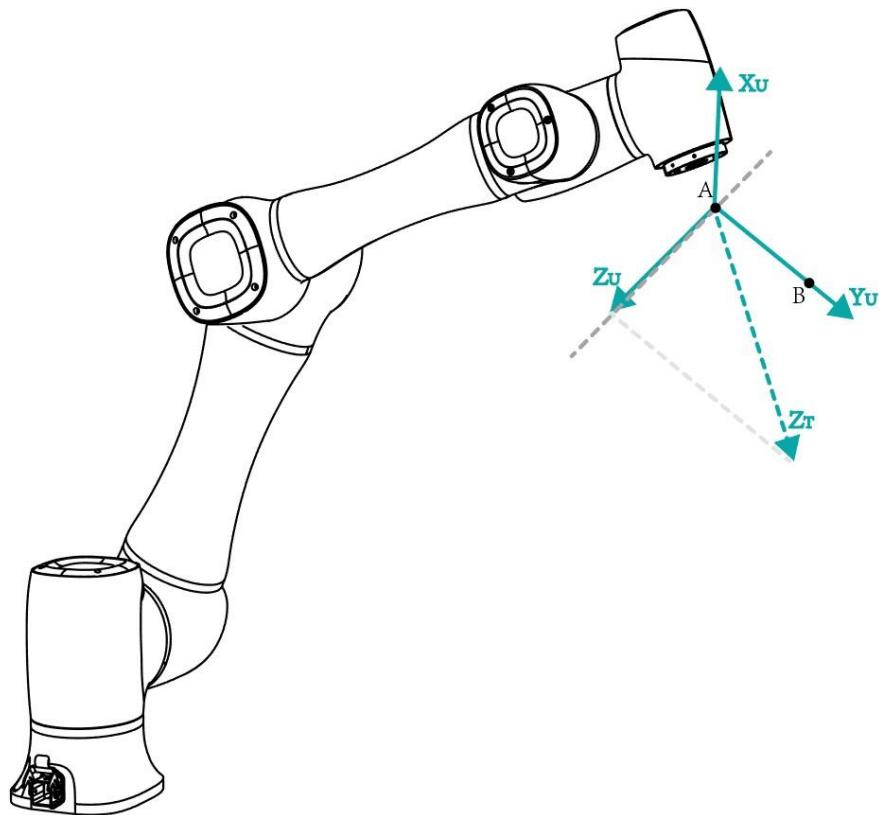

Figure 3.5 Line
- Line: Confirm a straight line by any two points **A** and **B**. The direction from A to B is defined as the positive direction of Y-axis, The Z-axis of Tool coordinate system of which point A is the origin is projected into the vertical plane that confirmed by points A and point B, we can define it as the positive direction of Z-axis. and then the positive direction X axis can be defined based on the right-hand rule. As shown Figure 3.5.